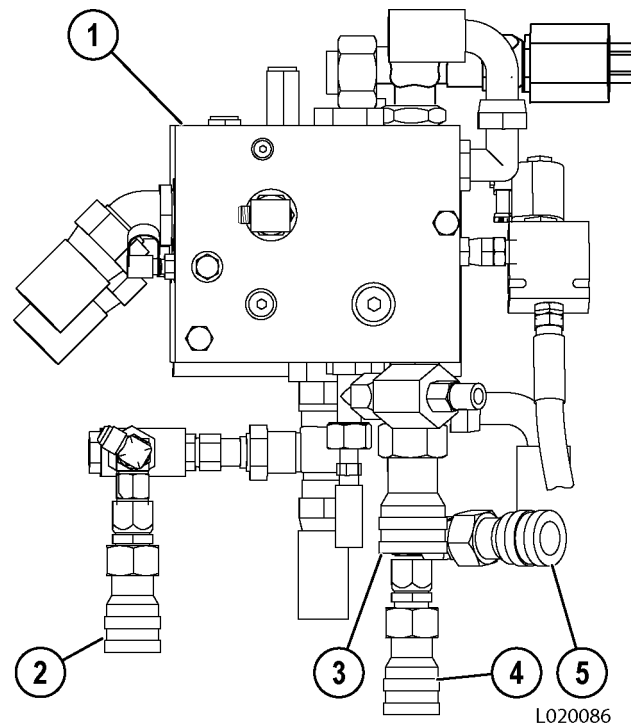

FIGURE 30-1. BLEEDDOWN MANIFOLD
2. Connect the hydraulic supply hose to the supply disconnect coupling (4, Figure 30-1).